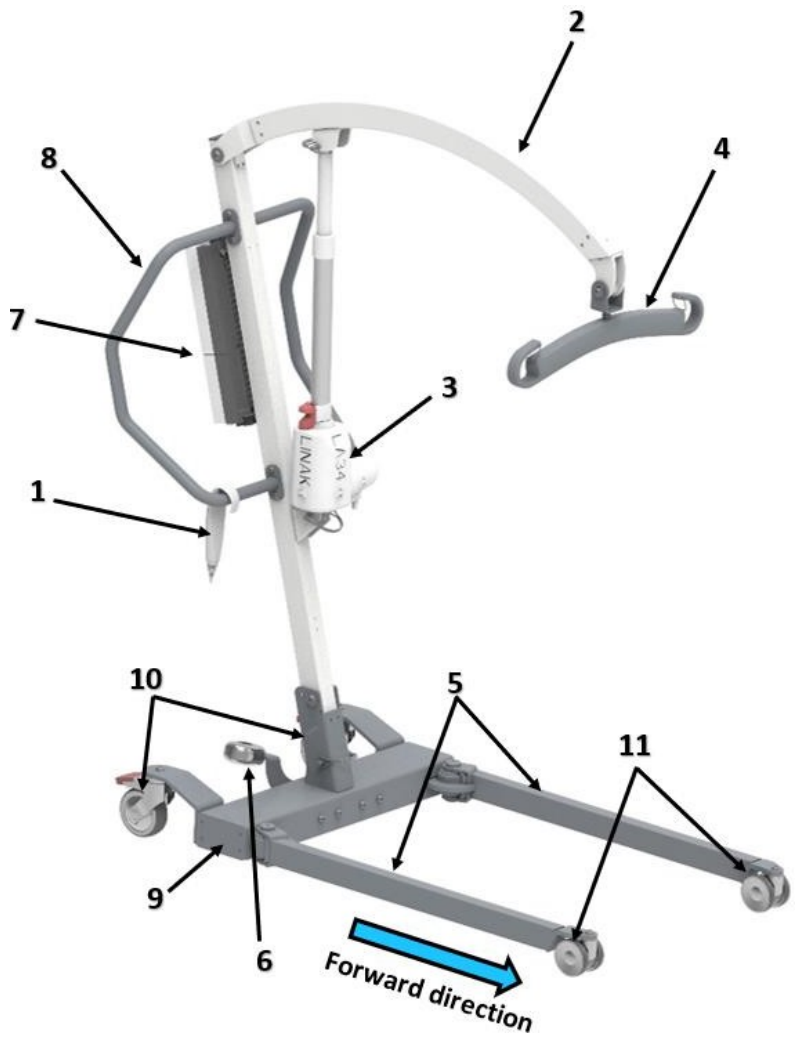

Figure 2b – Elevand FoldSmart ELS patient lift construction components with mechanical adjustment of the legs
- 6 **Foot lever to spreading of the device's legs of the base (Figure 2b)**